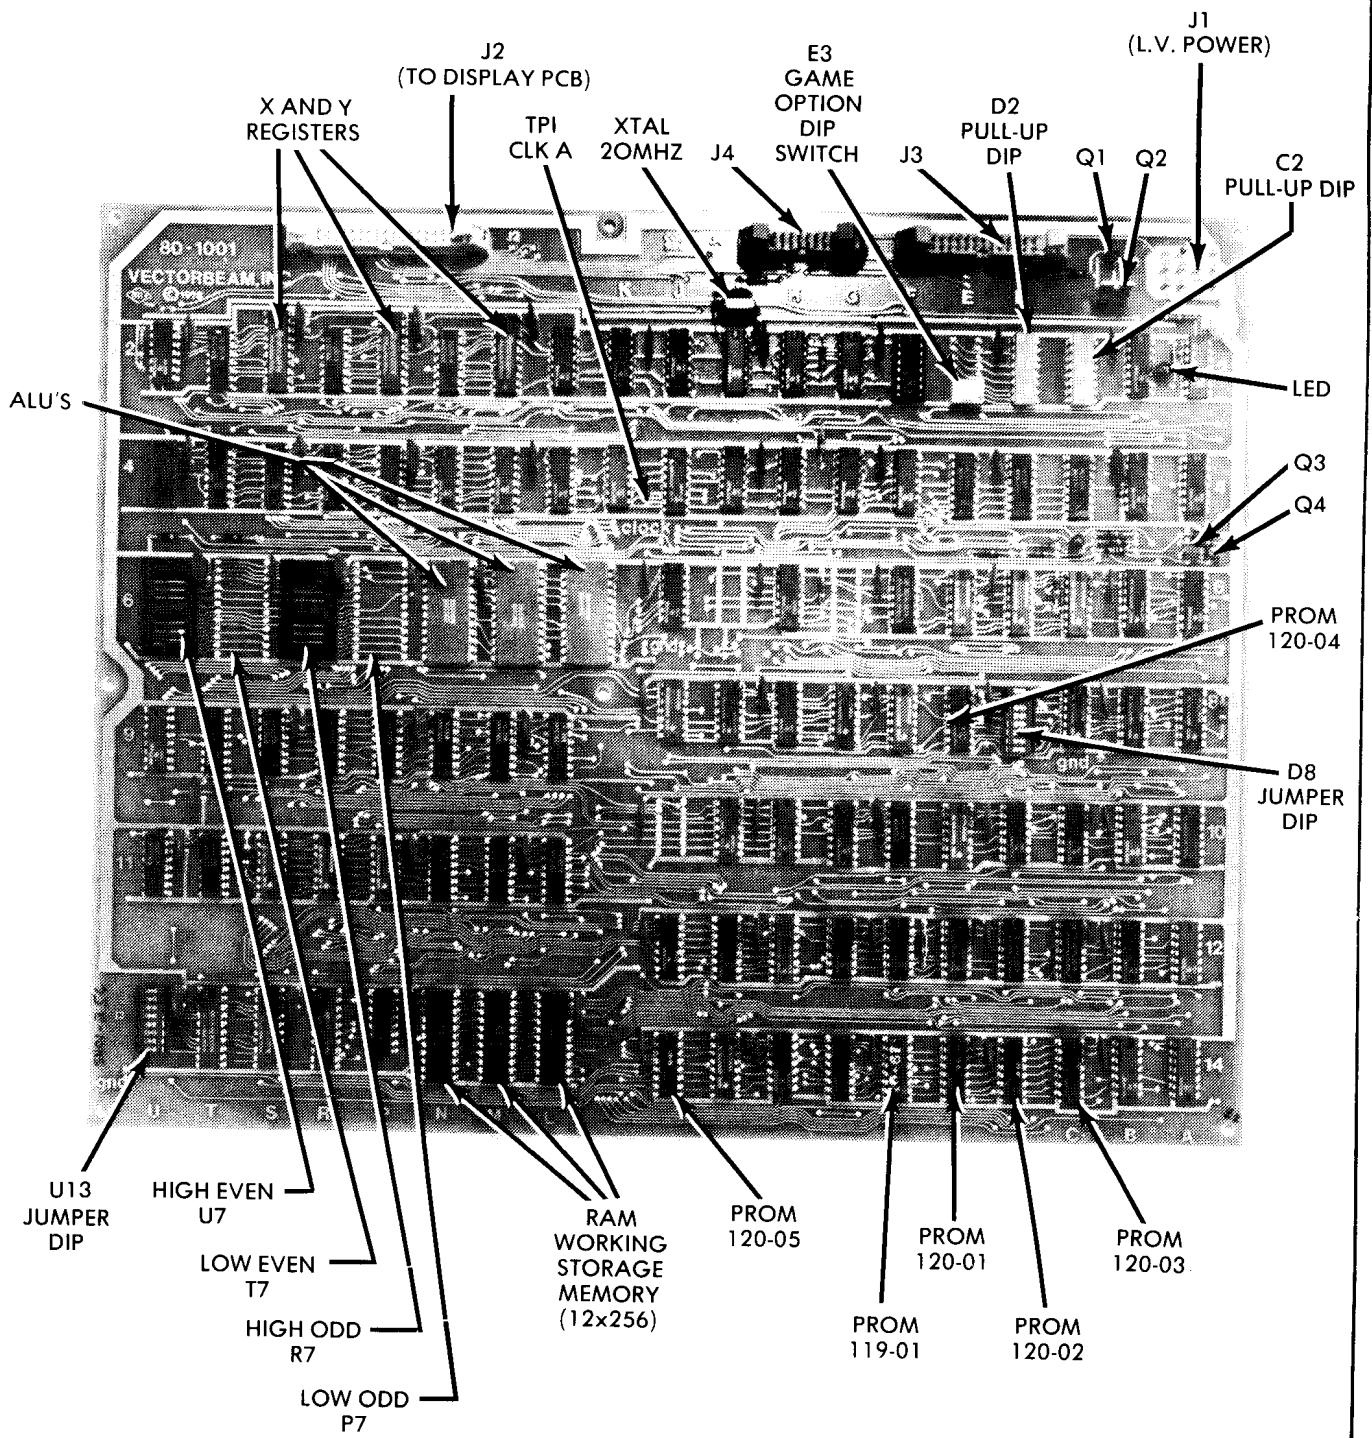

Figure 4-8 Logic PCB
- (c) Connect the leads of an ohmeter (set to X1) across the first gear reed switch. See Figure 4-8.